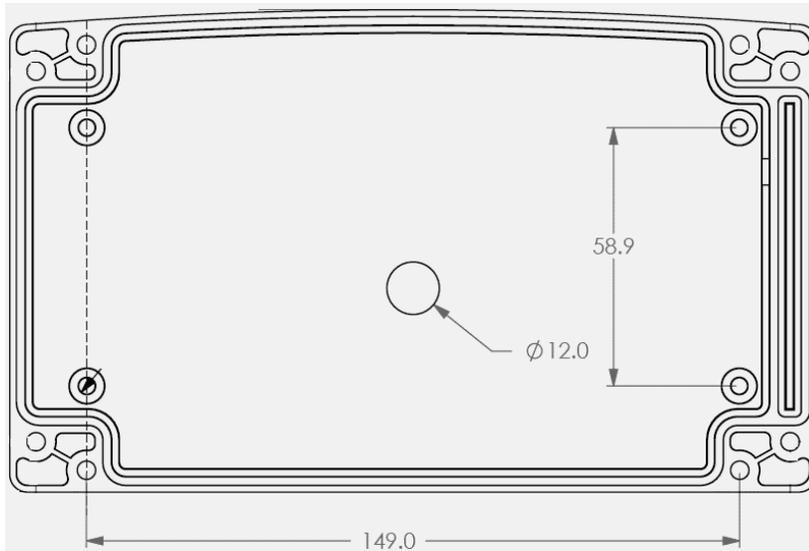

Figure 2-3. Tag Reader Installation Holes, Internal View
2. Together with the CFN PLUS station controller. See Figure 2-3 for instructions.
The Tag Reader is fastened by means of four M4 × 16 screws to the mounting surface or flange. The fastening screws pass through holes in the bottom plate of the Tag Reader. In addition, a 0.474" hole is required to pass the connection cable. The Tag Reader support flange is provided with holes suitable for attaching the Tag Reader to it. Figure 2-3 shows the drilling marking template for the Tag Reader.
1. Verify that the Tag Reader support flange is provided with holes suitable for attaching the Tag Reader to it (see Figure 2-3)